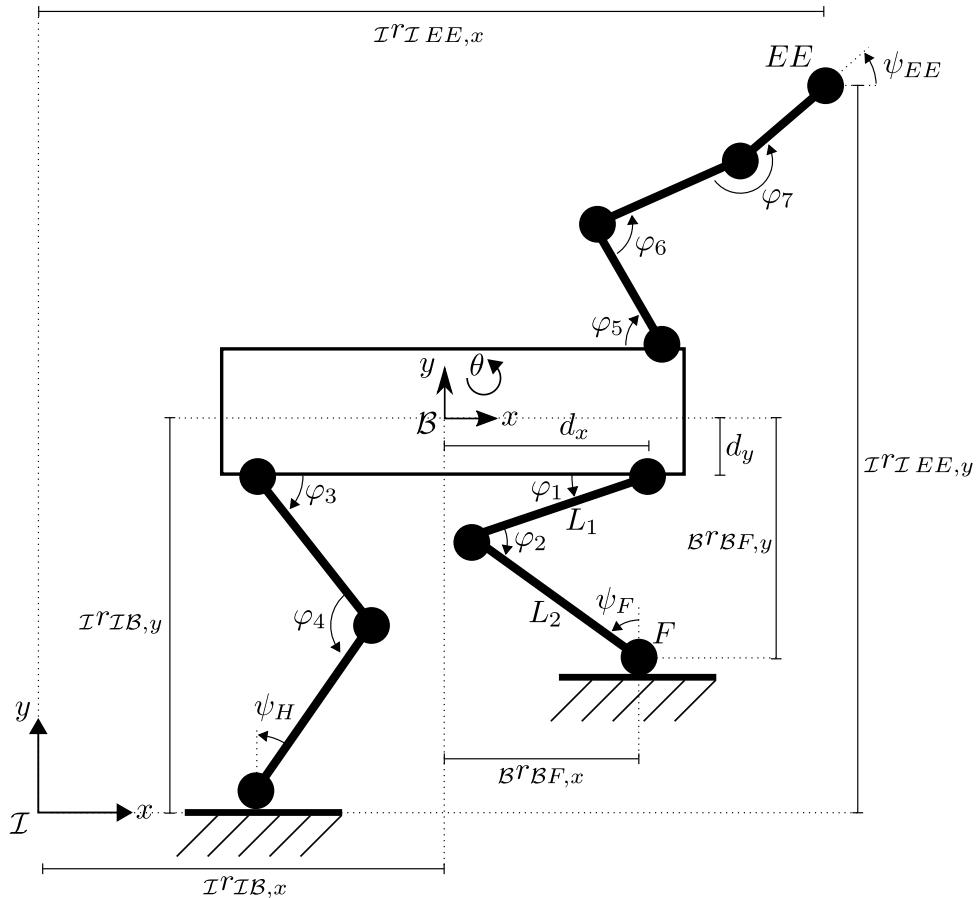

Figure 1: Two dimensional legged robot with arm.
The two dimensional legged robot depicted in Fig. 1 has two rotation degrees of freedom (DOF) per leg and an arm with three DOF. The robot's base itself has three DOF in the 2D plane.
- (1) What are the generalized coordinates for the robot in Fig. 1?